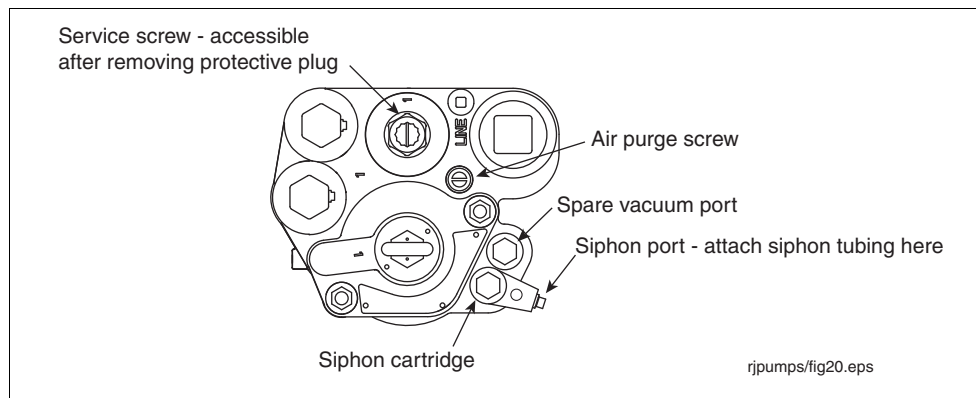

Figure 34. Siphon Ports
2. Remove and save the protective plug over the service screw and turn the screw clockwise (see Figure 34). As the screw approaches its bottom position, you will hear the system depressurizing. Continue turning the screw until it can go no further. When the screw is all the way down, backoff the screw 4 turns to lift the check valve and let the fuel drain out of the manifold's hydraulic cavities.
3. Remove one of the two siphon port plugs from the manifold (see Figure 34).
9. Turn the air purge screw 2 - 3 turns counterclockwise (see Figure 34).